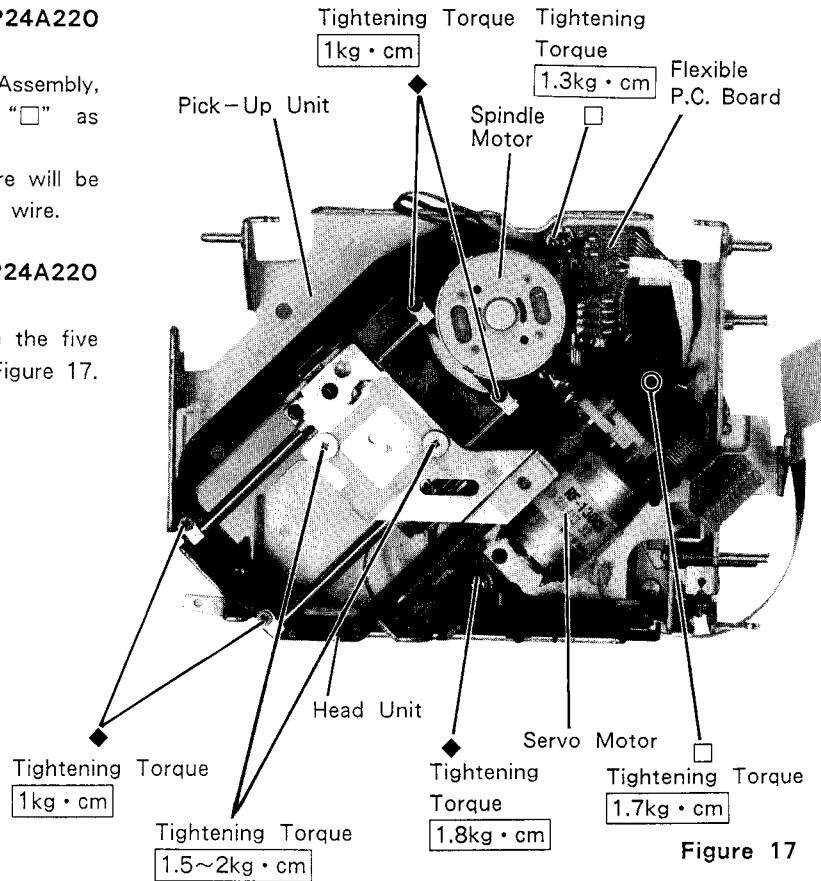

Figure 17
(1) After removing the Rivet Loading Bracket Assembly, remove the two screws marked with "□" as shown in Figure 17.
(1) After removing the Servo Motor, remove the five screws marked with "◆" as shown in Figure 17.